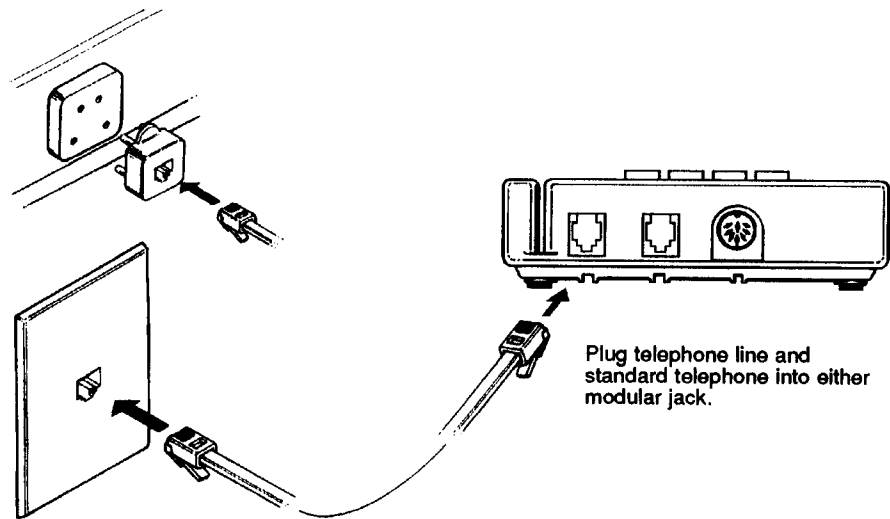

Figure 3-3. Modular Jack and 4-Prong Adapter
3. Connect one end of the telco cord to one of the modular jacks at the rear of the terminal. Connect the telco cord's other end to a telephone modular wall jack. As figure 3-3 illustrates, either directly insert the modular plug into the wall jack, or use a 4-prong adapter for 4-prong receptacles.